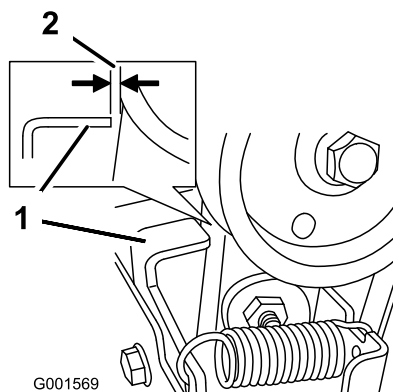

Figure 48
3. With the auger/impeller lever disengaged, ensure that the gap between the auger clutch assembly and the tab is 1/16 inch (1.5 mm) (Figure 48).